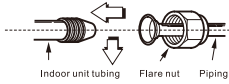

Fig 27
- Sufficiently tighten the flare nut with fingers, and then tighten it with a spanner and torque wrench as shown in Fig.27&28.